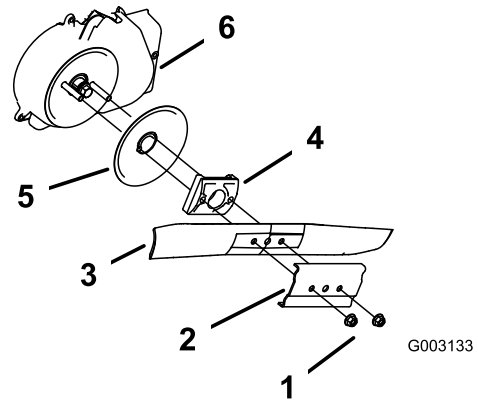

Figure 36
3. Remove the 2 blade nuts and the stiffener (Figure 36).
4. Remove the blade (Figure 36).
5. Remove the blade driver and disk (Figure 36).
6. Remove the blade brake-clutch shield (Figure 36).
10. Install the blade and the stiffener that you previously removed (Figure 36).